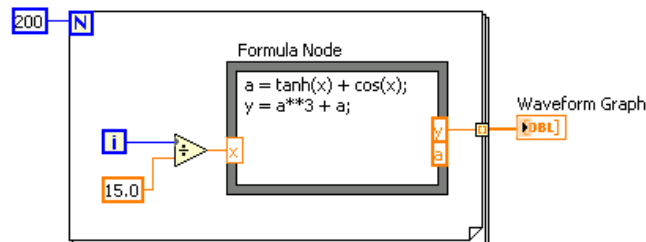

Figure 8.18
1. Build the block diagram shown in Figure 8.18.
- (e) Complete the block diagram as shown in Figure 8.18.